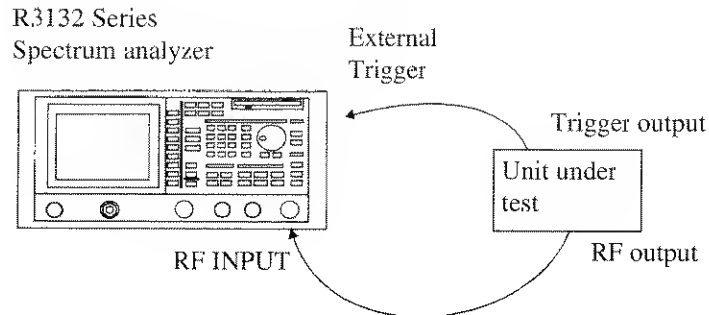

Figure 2-98 Setup for Measurements Using the FM Demodulation Function
1. Connect the analyzer and the unit under test as shown in Figure 2-98.